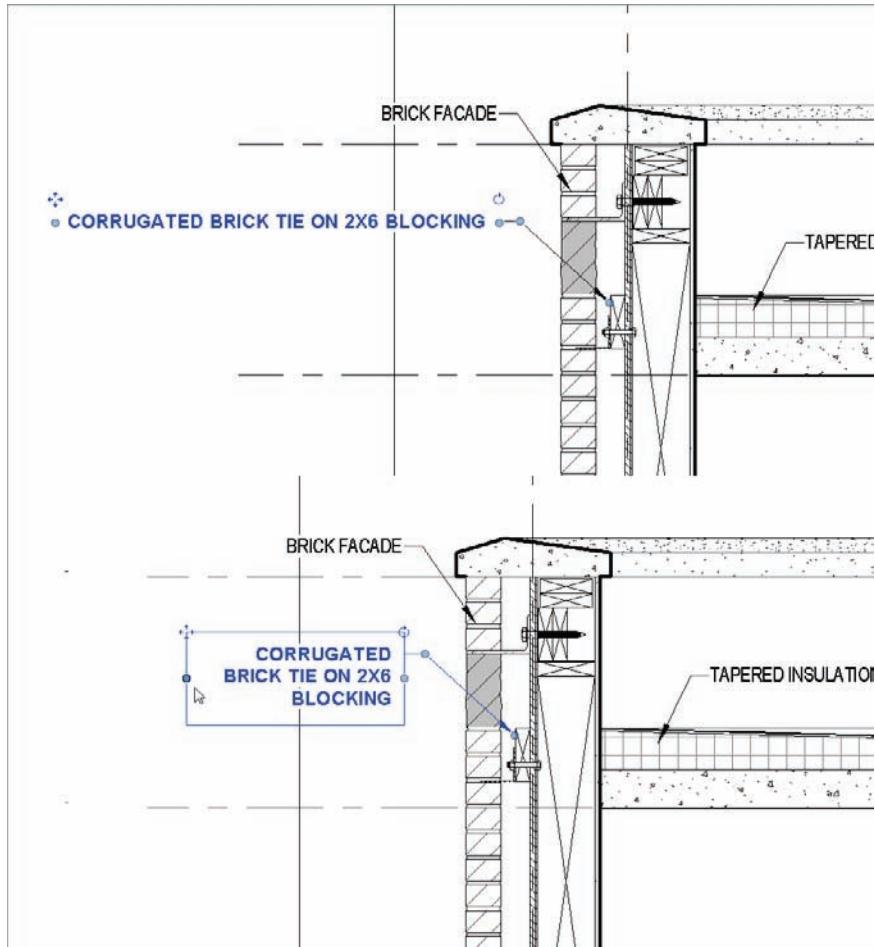

FIGURE 12.58 Wrapping the text
12. Pick the grip to the left, and drag the box to resemble Figure 12.58. The text will wrap.